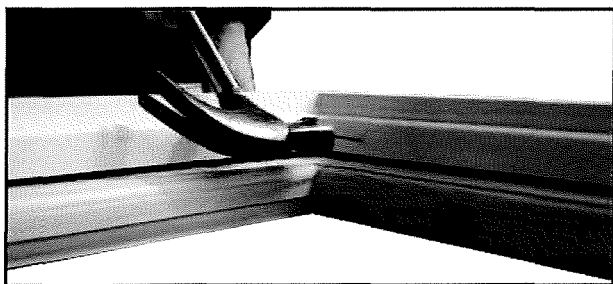

Fig A15
25. Lay the assembled window unit with the opening insert downwards onto your work surface (Fig A15).
26. Position the draught strips so the rubber is against the opening insert and fix with 25mm oval nails, 1 at either end and approx 300mm centres per strip (Fig A15).